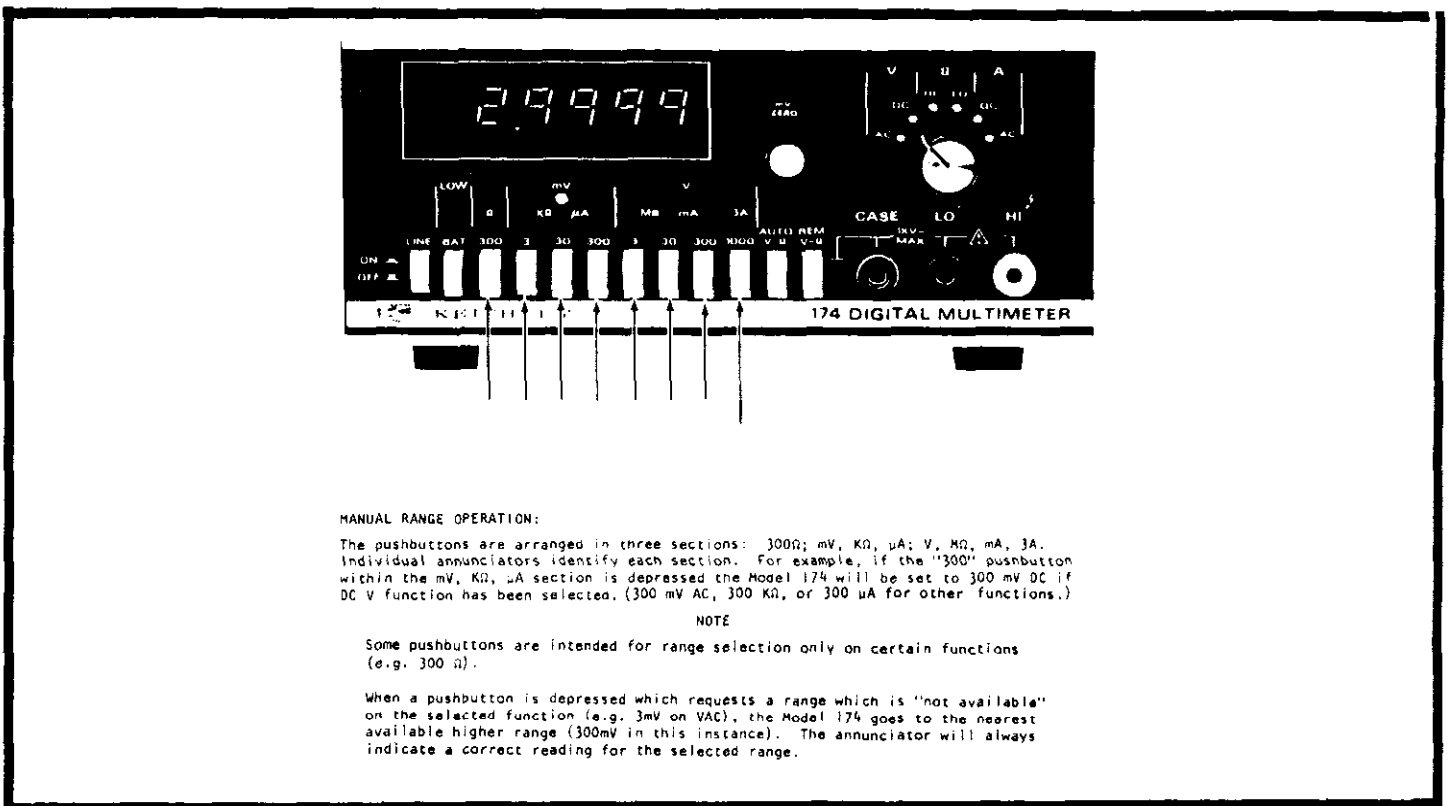

FIGURE 7. Manual Ranging on the Model 174.
a. Manual Ranging. (All functions). The Model 174 can be set to Manual Mode by depressing the appropriate range pushbutton. See Figure 7 for detailed explanation of manual ranging.